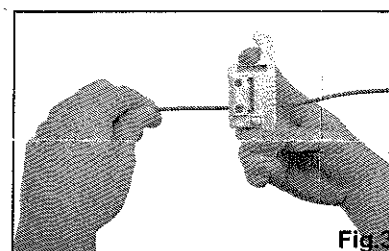

Fig.3
5. Close the tool completely until the clasp engages. (Fig.3)